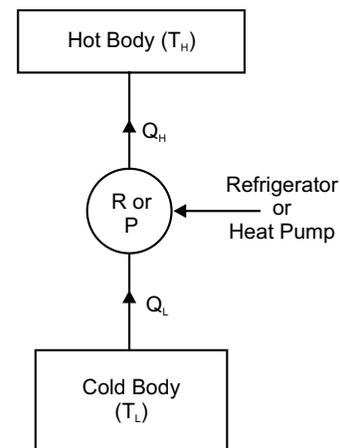

Fig. 5.4
- (a) **PMM-II:** The device (reversible heat engine *i.e.*, refrigerator or heat pump) which violates the Clausius statement because no input work is supplied to the device to transfer heat from a cold body to a hot body is shown in figure 5.4. Such a device is called perpetual motion machine of the second kind.
- (b) **0 Reversible Heat Engine (Refrigerator/Heat Pump):** The statement implies that refrigerator  $R$  or heat pump  $P$  of the type shown in figure 5.4 which will receive heat  $Q_L$  from a low temperature reservoir and transfer it to a high temperature reservoir is impossible. The only alternative is that there must be some work input ( $W$ ). Accordingly, we obtain a schematic representation of refrigerator and heat